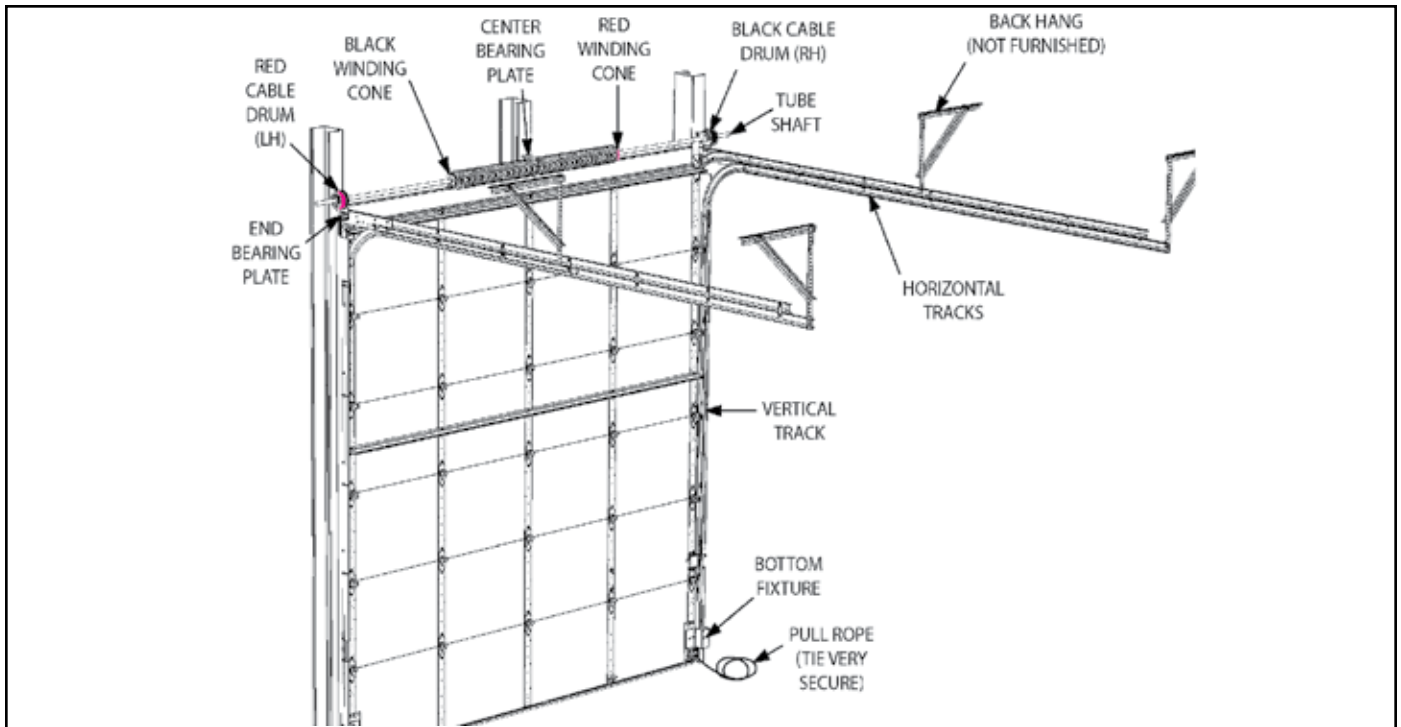
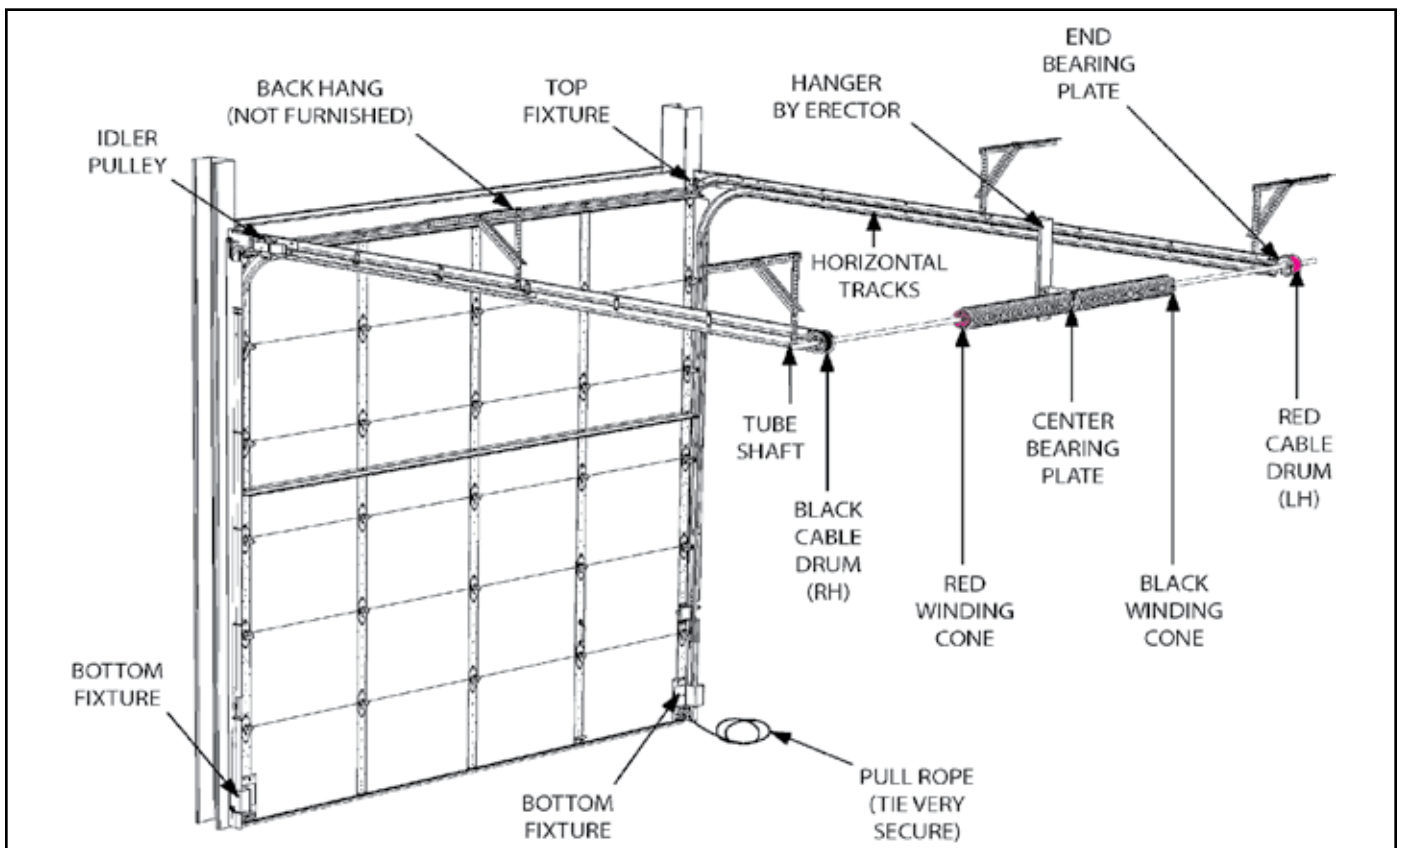

Figure 43
Figure 44
Figure 43 shows a Low Headroom Springs Front. Figure 44 shows a Low Headroom Springs Rear.
- **LOW HEADROOM SPRINGS FRONT:** (Fig. 43)
• **LOW HEADROOM SPRINGS REAR:** (Fig. 44)
TRACK, AND THE SET SCREWS WILL FACE AWAY FROM THE CENTER OF THE DOOR (Fig. 44).